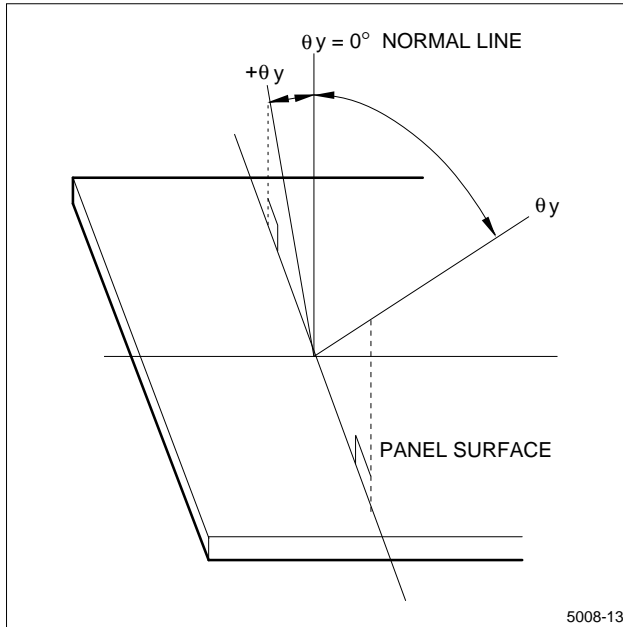

Figure 12. Dot Matrix LCD Viewing Angle
- Industrial (Mechanical) design of the product in which this LCD unit is incorporated must be made so that the viewing angle characteristics of the LCD is optimized. This unit's viewing angle is illustrated in Figure 12 and as follows: